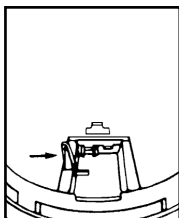
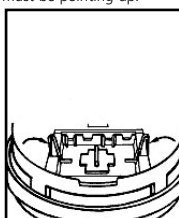

FIGURE 7
FIGURE 7A
5. When installing the battery, press the battery reminder finger down into the battery compartment and install the battery (see figure 7 and figure 7A for the i9080 alarm).
The safety light has a 6.3 V 250mA fuse lamp with an average life of 50 hours. If the safety light fails to operate with a fresh alkaline battery, then replace the lamp. To replace the lamp, remove the alarm from the mounting bracket by rotating the alarm in the direction of the "OFF" arrow on the cover (See Figure 7, and Alarm Tamper Resist Feature section if this feature has been activated).